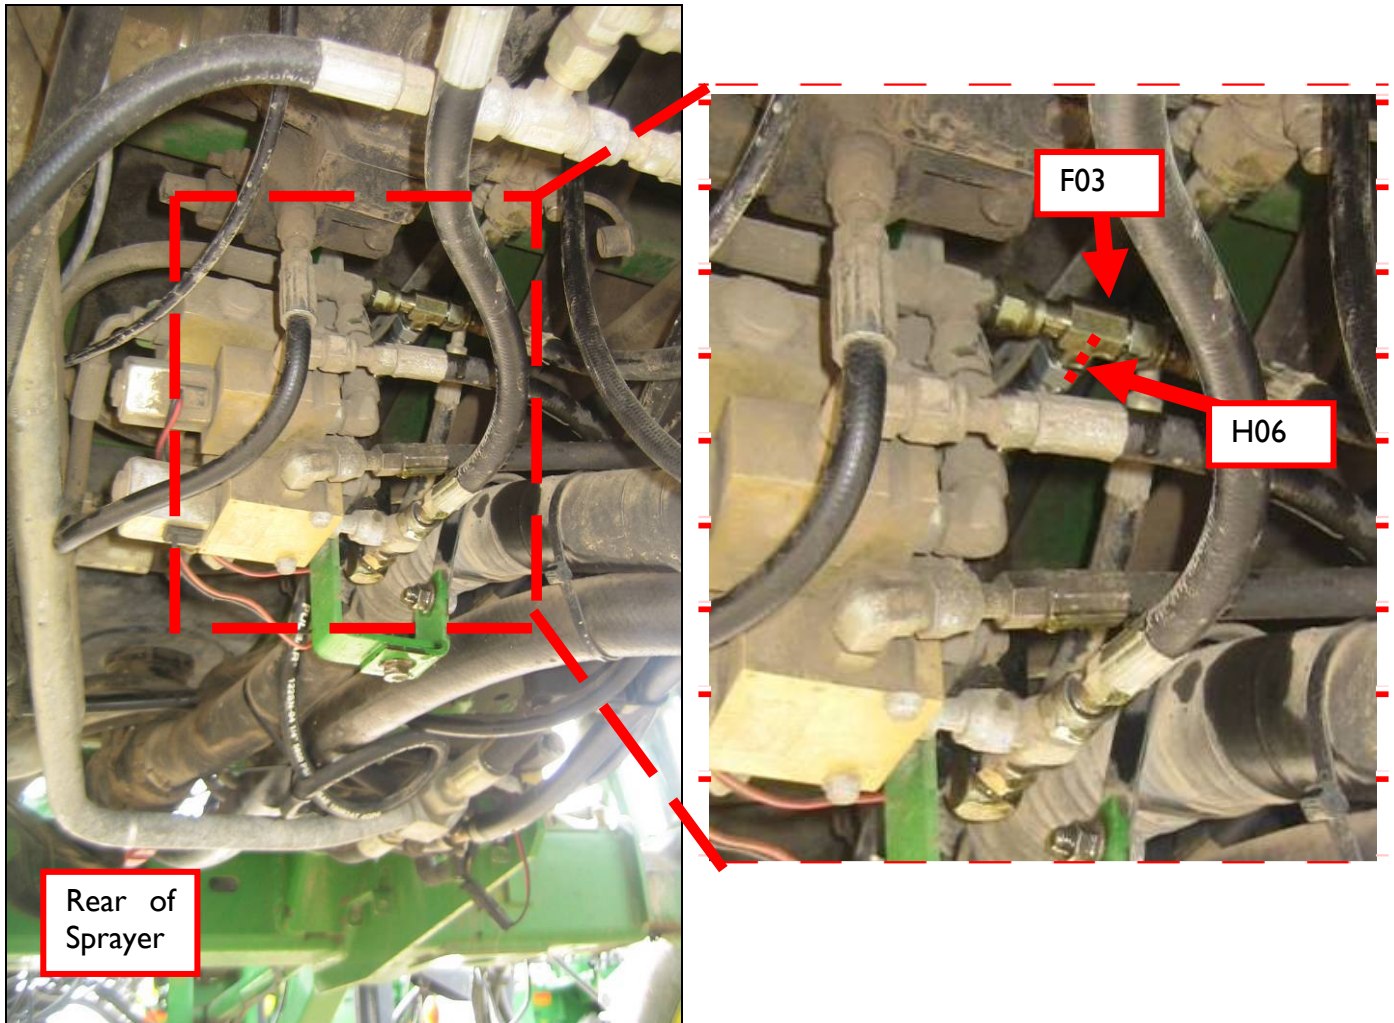

Figure 25: Looking towards the rear of the sprayer on a JD4700, JD4710
7. Tee the Load Sense line (**H06**) directly in to the S port of the shuttle valve manifold using fitting F03 as shown in **Figure 25, Figure 26, Figure 27 and Figure 28**.